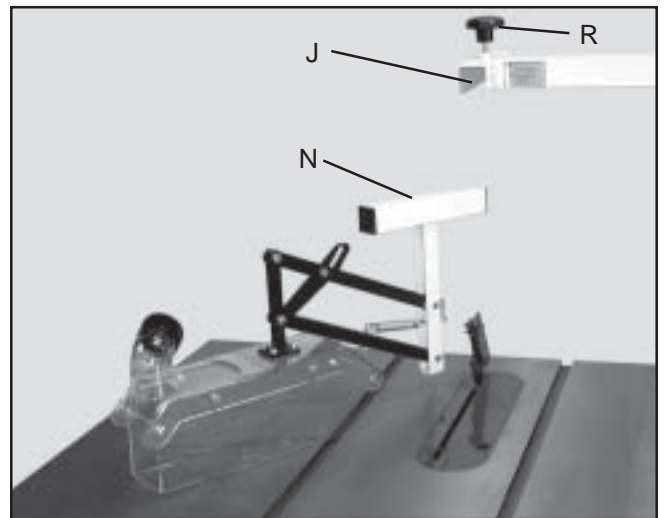

Fig. 20
19. Thread locking knobs (R) Fig. 20, into threaded nut on adjusting arm (J). Insert basket body assembly (N) Fig. 20 into the "T" of the adjusting arm (J).